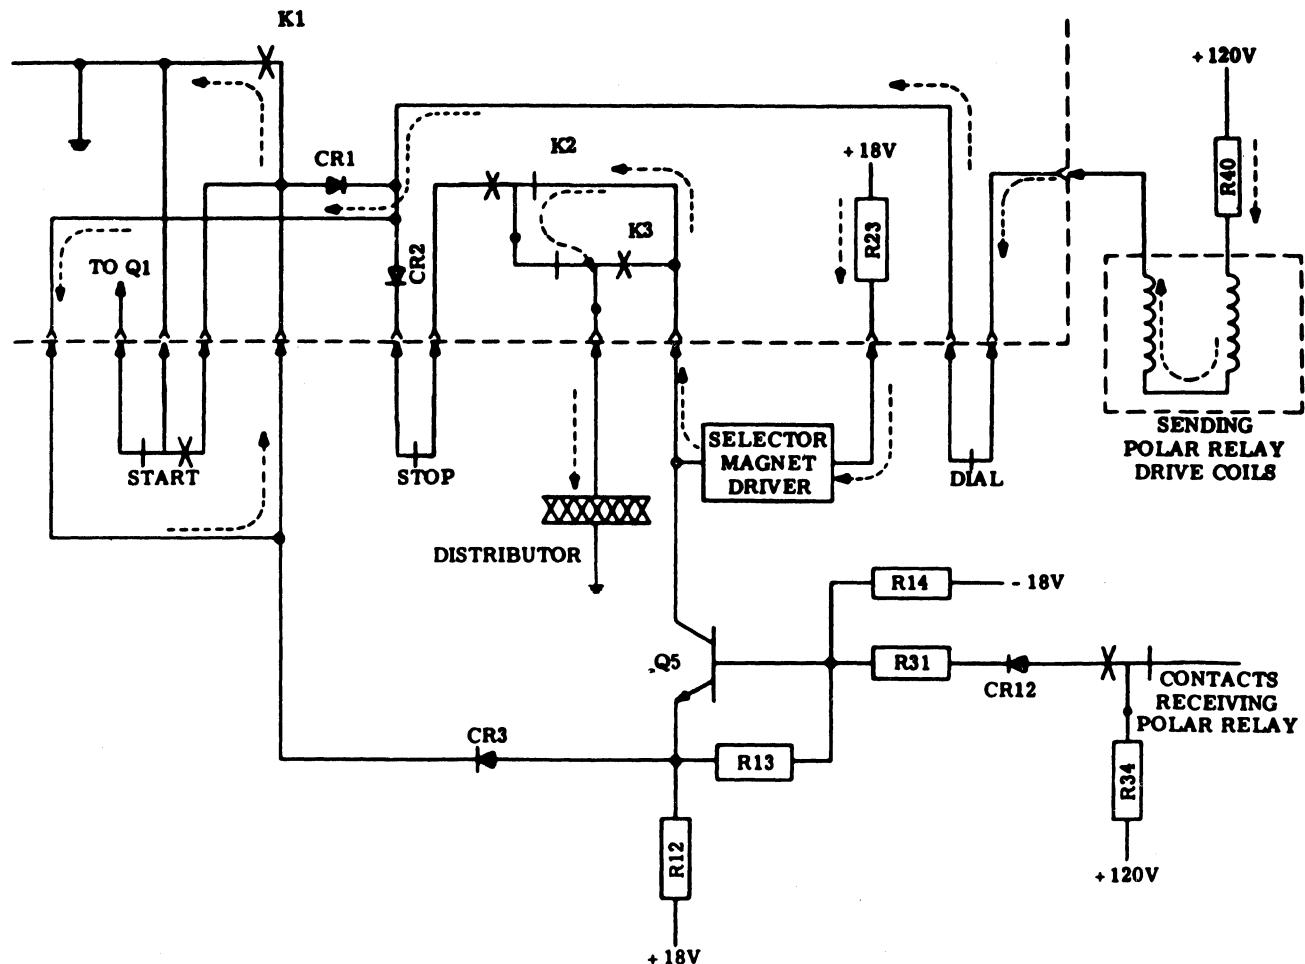

Figure 11 - Sending Loop Control Circuit With Sending Polar Relay
3.71 Figure 11 is a schematic wiring diagram of the sending loop control circuit with the current amplifier and the sending polar relay. Blinding current to the selector magnet driver flows from +18 volts through R23, J5-2, the selector magnet driver, J4-3, and "hl" contact, the "wl" contact, J4-9, and the distributor to ground. No current flows in the drive coils of the sending polar relay, since neither the start contact, the "a" contact, nor the "hl" contact are operated to supply ground.
3.73 A call may be initiated when the call control unit is in either the idle line or local conditions as described earlier. Depressing the START pushbutton will allow current to flow through the drive coils of the sending polar relay. This sending polar relay will then transmit a marking signal on the sending leg. The current path through the coils is shown by the dotted line in Figure 11.
3.74 Operating the START pushbutton will also remove ground from the collector of Q1 in the call control unit. Current to the input of the proceed-to-dial circuit (base of Q1) is supplied from the spacing contact of the receiving polar relay. This is not shown in Figure 11. The proceed-to-dial circuit will not operate until this current is interrupted.
3.77 The dial signaling contacts are in series with the drive coils of the sending polar relay as shown in Figure 11. The dial contacts will thus energize and de-energize this relay whenever current is flowing through them. The make-break signal generated by the dial contacts will be transmitted as mark-space signals by the sending polar relay. These mark-space signals are used by the exchange to make the necessary connection.
**3.87** This operation is identical to that of the call control unit without polar adapter except for the current path to the selector magnet driver. This path is shown in Figure 11.